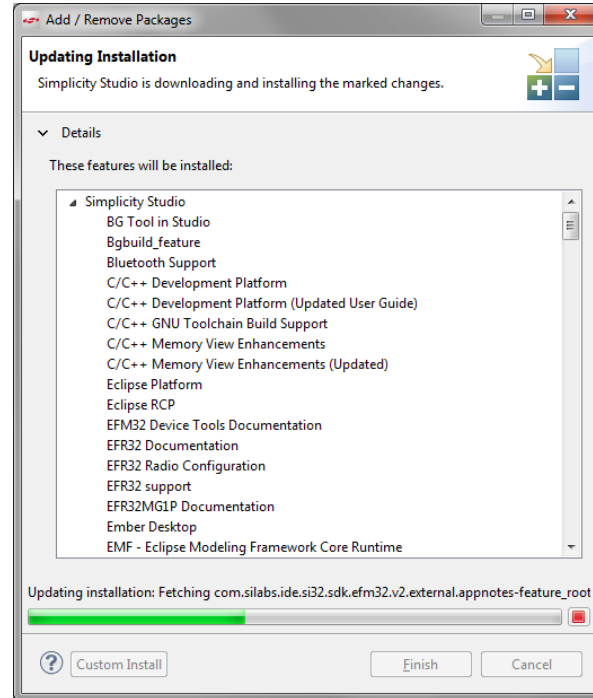

Figure 4. Installation Update
3. Simplicity Studio then installs software packages related to your connected hardware (Figure 4). This procedure can take some time, during which the green progress indicator may appear stationary. However, the update steps above the progress indicator are continuously refreshed.